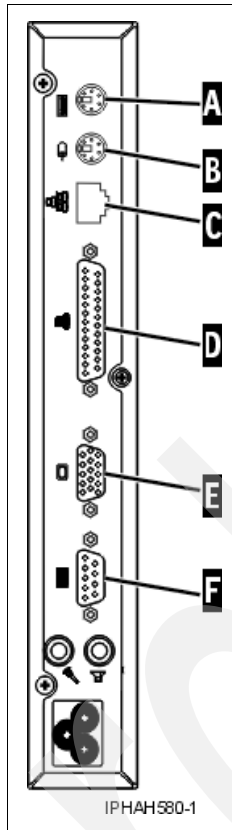

Figure 4-8 Thin Console back view
2. Connect the display, keyboard, mouse, power cable, and Ethernet cable to the ports on the Thin Console (Figure 4-8).